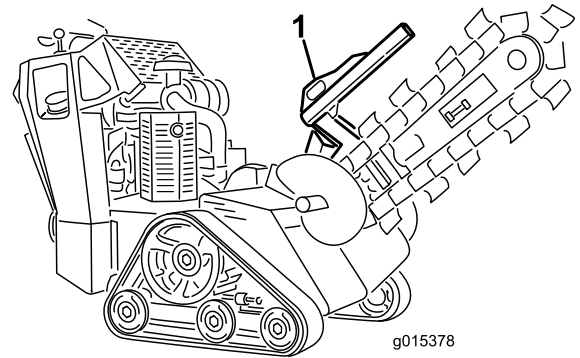
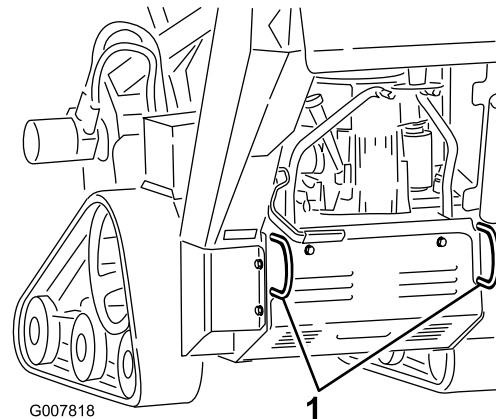

Figure 18
Figure 19
3. Secure the machine to a trailer with chains or straps using the tie-down/lift loops at the front and rear of the machine (Figure 18 and Figure 19). Refer to your local ordinances for trailer and tie-down requirements.
You can lift the machine using the tie-down/lift loops as lift points (Figure 18 and Figure 19).